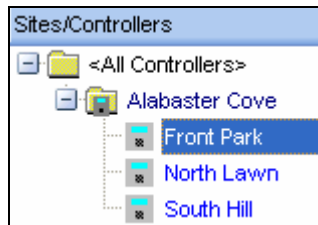

Figure 27.0.3
- Next click on a controller from your controller list to highlight it (Figure 27.0.3).